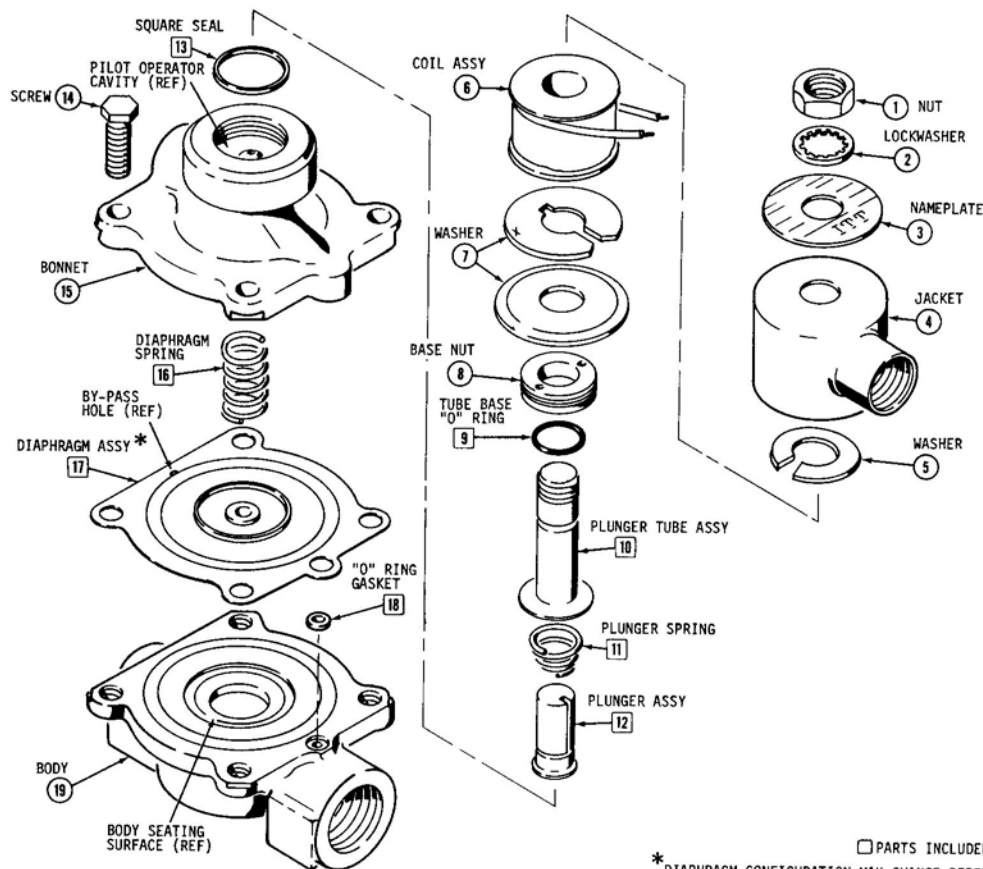
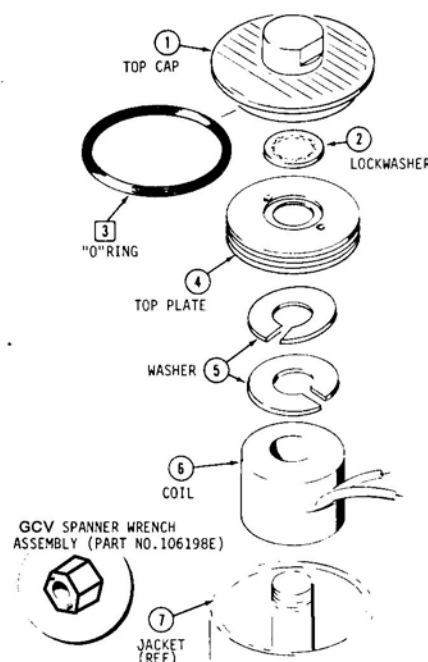

Fig. 3. Typical S211 Valve
Fig. 4. Typical S211 Explosion-proof Operator
5. Wire in accordance with applicable local and national electrical codes. Loosen the hex nut (Fig. 3, No. 1) to rotate the coil jacket (Fig. 3, No. 4). Using a torque wrench, tighten the hex nut to 20-25 inch pounds when installation is completed.
Disassembly and Reassembly. (See Fig. 3.)
1. Unscrew the hex nut (1). Remove the lockwasher (2).
2. Lift off the coil jacket (4) with nameplate (3) and coil (6) from the plunger tube assembly (10). Also remove the bottom washers (7).
3. Remove the coil and upper washer (5) from the coil jacket.
4. Use an ITTGC Spanner Nut (106198E) to remove the base nut (8).
5. Remove the tube base "O" ring (9) and remove the plunger tube assembly (10) from the bonnet (15). All parts numbered 9 through 13 on Fig. 3 will be replaced by the new parts in the Universal Kit.
6. Remove the bonnet cap screws (14), and lift the bonnet off of the body (19).
7. Remove the parts numbered 16, 17, and 18 on Fig. 3. These parts will all be replaced by the new parts from the Universal Kit. If necessary, tap the body against your hand or a flat surface to free the "O" ring gasket (18).
8. Place the new "O" ring gasket (18) into its hole in the body (19).
9. Replace the diaphragm assembly (17). The plate on the diaphragm assembly must face away from the body. Be sure that the diaphragm is lined up properly (see CAUTION above Step 8).
10. Replace the diaphragm spring (16) as shown in Fig. 3. Reassemble the bonnet (15) onto the body (see CAUTION above Step 8), and replace and tighten down the bonnet cap screws (14).
12. Install the plunger spring (11) small diameter down onto the plunger assembly (12). Insert the final assembly of (11) and (12) into the plunger tube assembly (10).
13. Place the plunger tube assembly, with the plunger spring and plunger in it, into the bonnet operator cavity (REF.). Place the new tube base "O" ring (9) onto the plunger tube assembly as shown in Fig. 3.
14. Replace the base nut (8) onto the plunger tube (10). USING A TORQUE WRENCH, TIGHTEN THE BASE NUT INTO THE THREADS ON THE BONNET TO 18 TO 24 LB. IN.
15. Replace the bottom washers (7) onto the plunger tube. The raised outer edge of the bottom washer which is closest to the bonnet (forms a complete
Standard Model Fig. 3.
Explosion-proof Model Fig. 4.
See Fig. 3 for an exploded view of a typical S211 Model "A", and Fig. 4 for an exploded view of a typical S211 Model "B" Explosion-proof operator assembly.